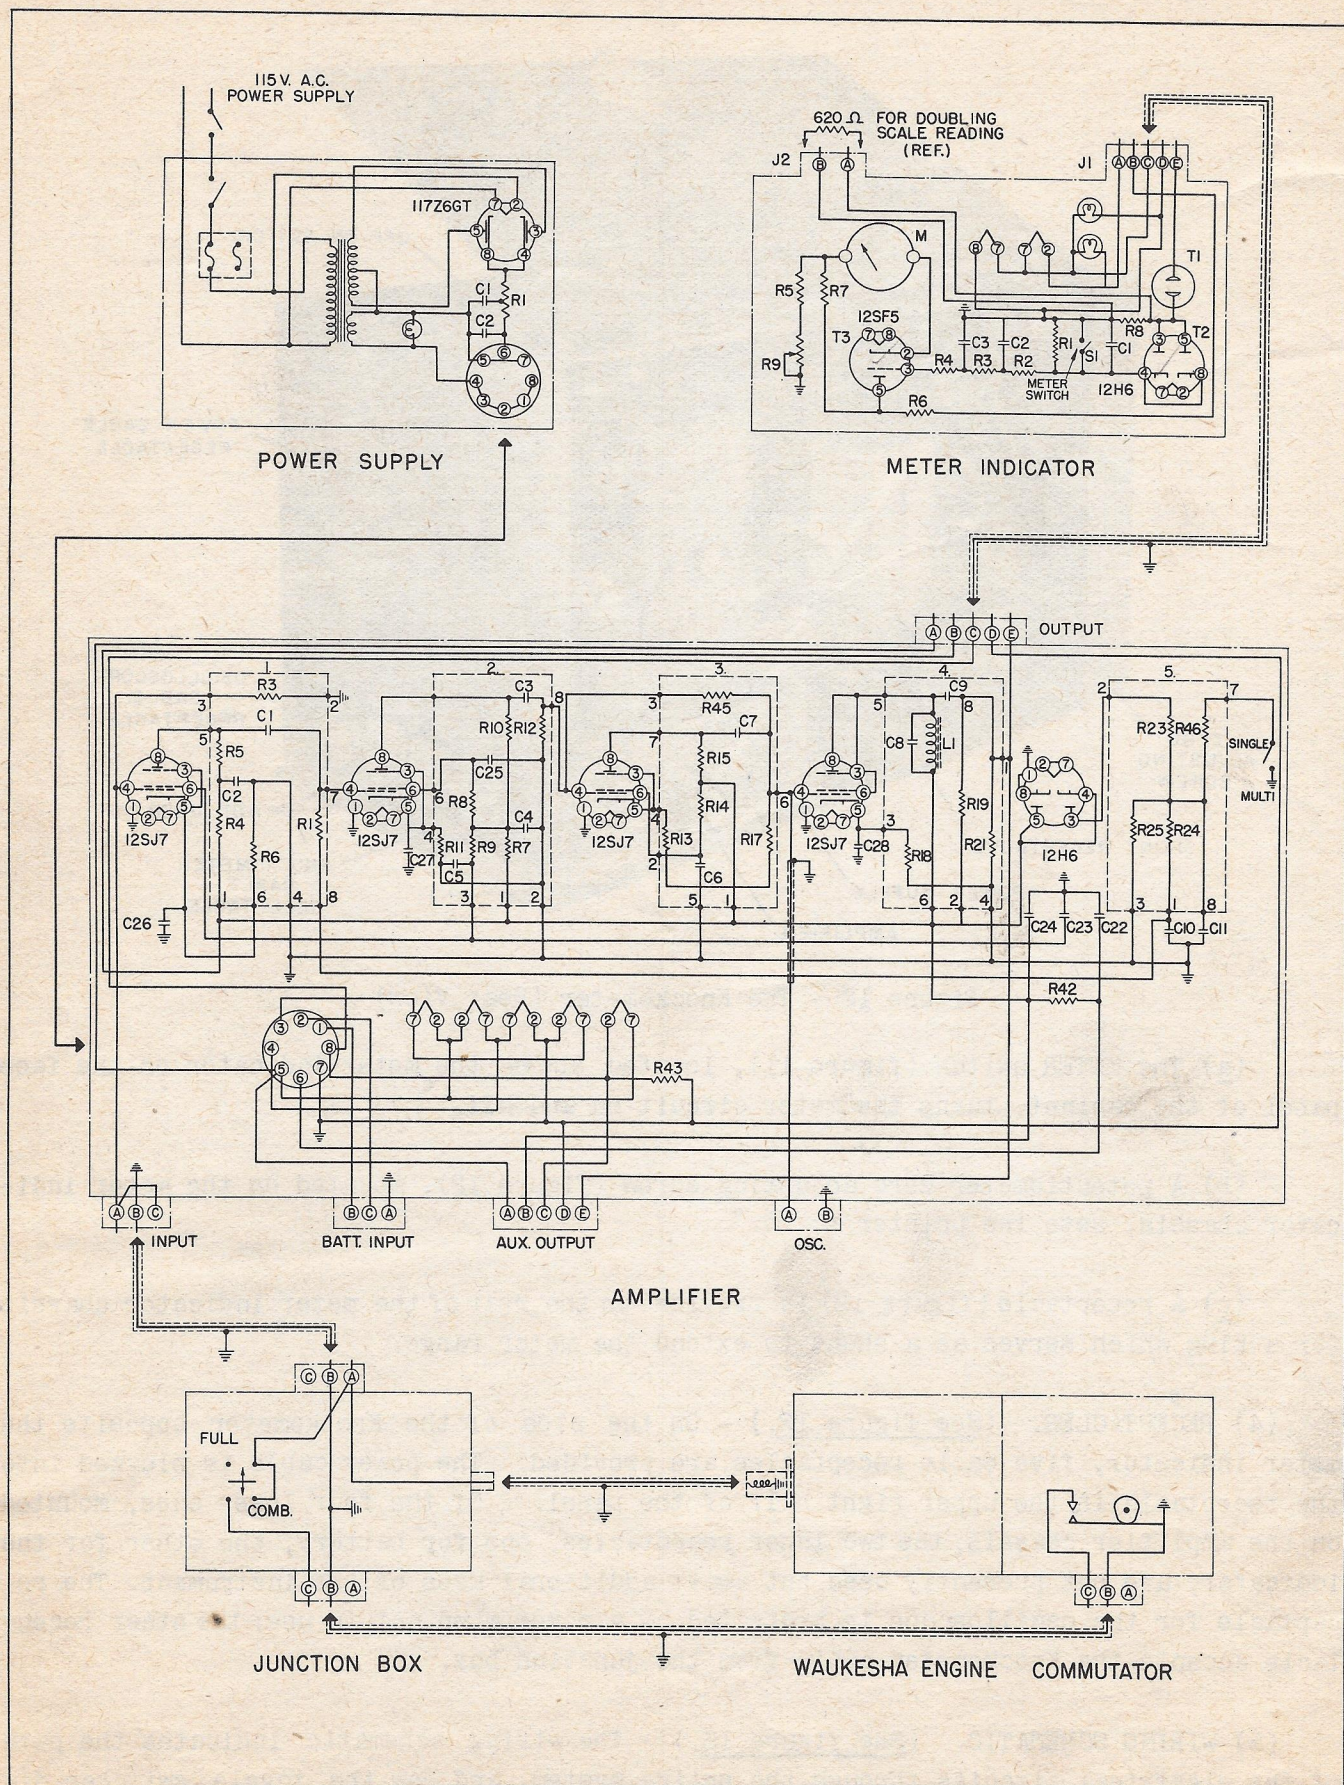

Figure 13 - Wiring Schematic
(5) WIRING SCHEMATIC. (See figure 13.) - The wiring schematic indicates the path of the electrical circuits through the entire system, and how the toggle switches divert current into proper channels for each operation.
Key to Figure 13